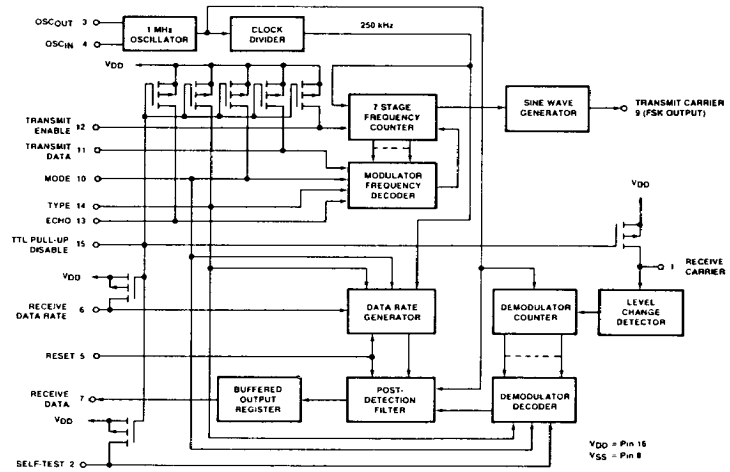

Figure 1. Typical Connection of the XR-14412 in a Complete Modem System
Figure 1 shows the typical connection for the XR-14412 as a modem system. The system has four main component blocks. They are FSK modulator and demodulator, which are contained in the XR-14412, the bandpass filter, and the line hybrid. The function of each block is as follows:
**Description of Control Inputs—**Refer to Figure 1 and Table 1.